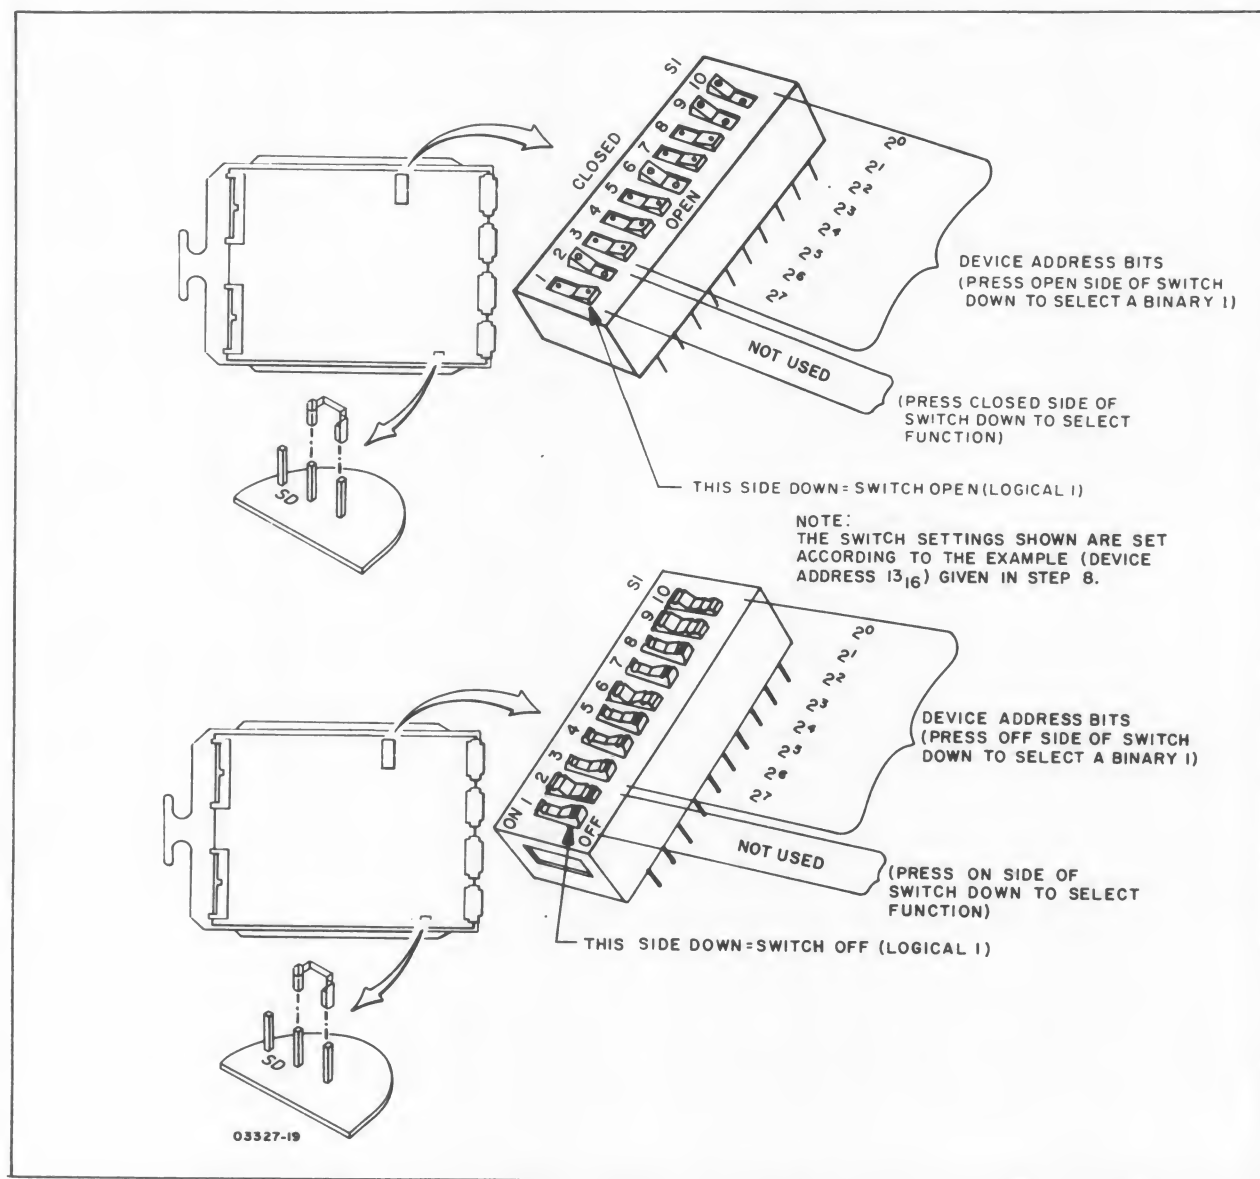

Figure 3-1. Attachment Feature Card Selection Switches
8. Set the card's switches as required (see figure 3-1) with a ball point pen or other suitable device. For example, to select device address 13 hexadecimal, set switches S1-6, S1-9, and S1-10 so that open sides of the switch are pressed down (logical 1), and set switches S1-3, S1-4, S1-5, S1-7, and S1-8 so that the closed sides are pressed down (logical 0).
9. Verify that the SD jumper is configured as shown in figure 3-1.